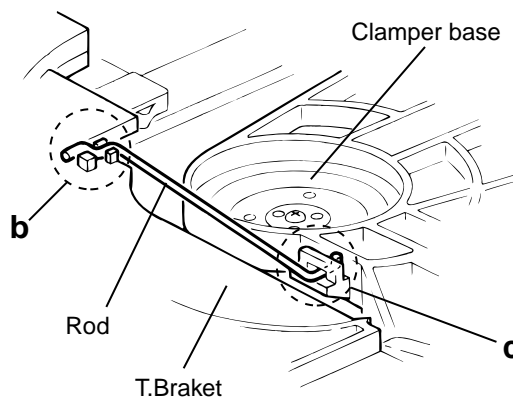

Fig.2
(See Fig.2~4)
1. Remove the front panel assembly. (See Fig.2~4)
5. From the T.bracket section "b" and clamber base section "c", remove both of the edges fixing the rod(See Fig.2 and 3).